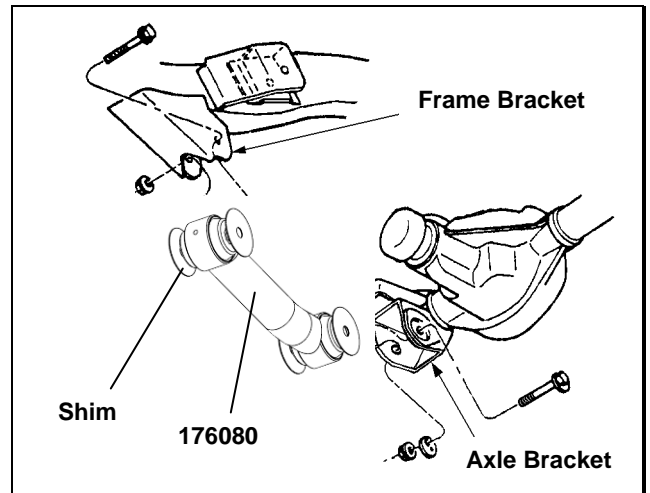

Figure 6
- 5) Install new Rancho suspension link assy 176080, along with 4 shims from kit 860218, to the frame and axle brackets as shown in figure 6. Use original hardware but do not tighten.